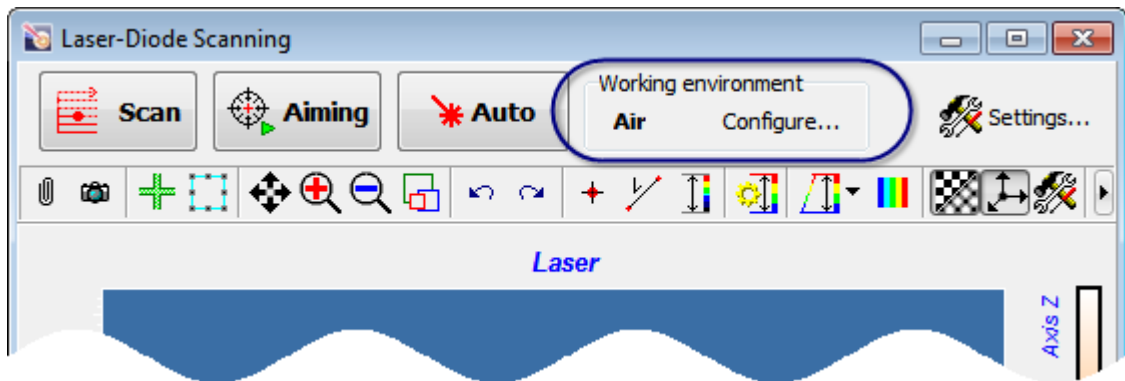

Fig. 7-4. Laser-Diode Scanning
2. Open the window for adjusting the detection system (Fig. 7-4) by clicking the